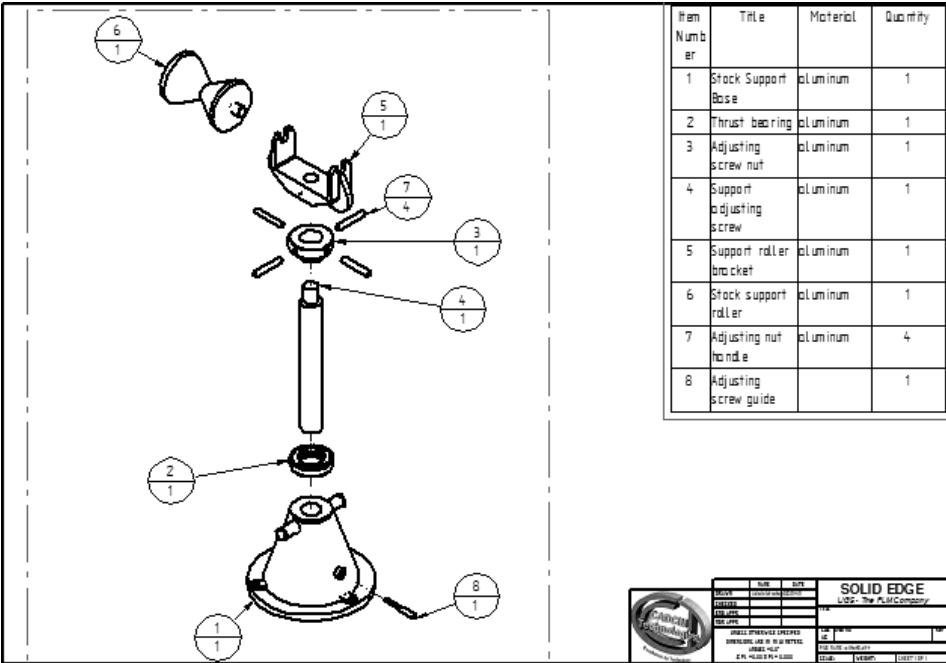

Figure 12-29 The exploded view of the assembly with parts list and balloons
5. Click in the drawing area to place the parts list and balloons, as shown in Figure 12-29.